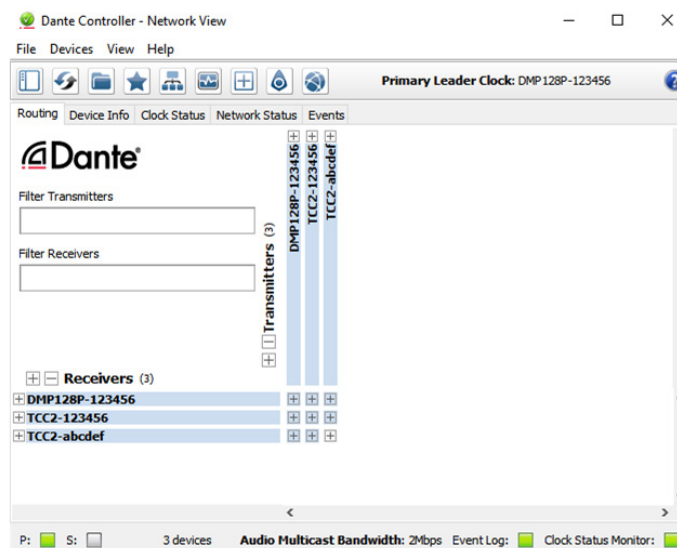

Figure 8. Routing Tab of Network View Screen
2. From the Windows Start Menu select: All Programs > Audinate > Dante Controller. The Dante Controller - Network View screen opens. Dante Controller auto-discovers Dante devices on the network and advertises itself to allow other Dante-enabled devices to communicate with it. Transmitters connect to receivers using the subscription matrix (see figure 8 on page 6).